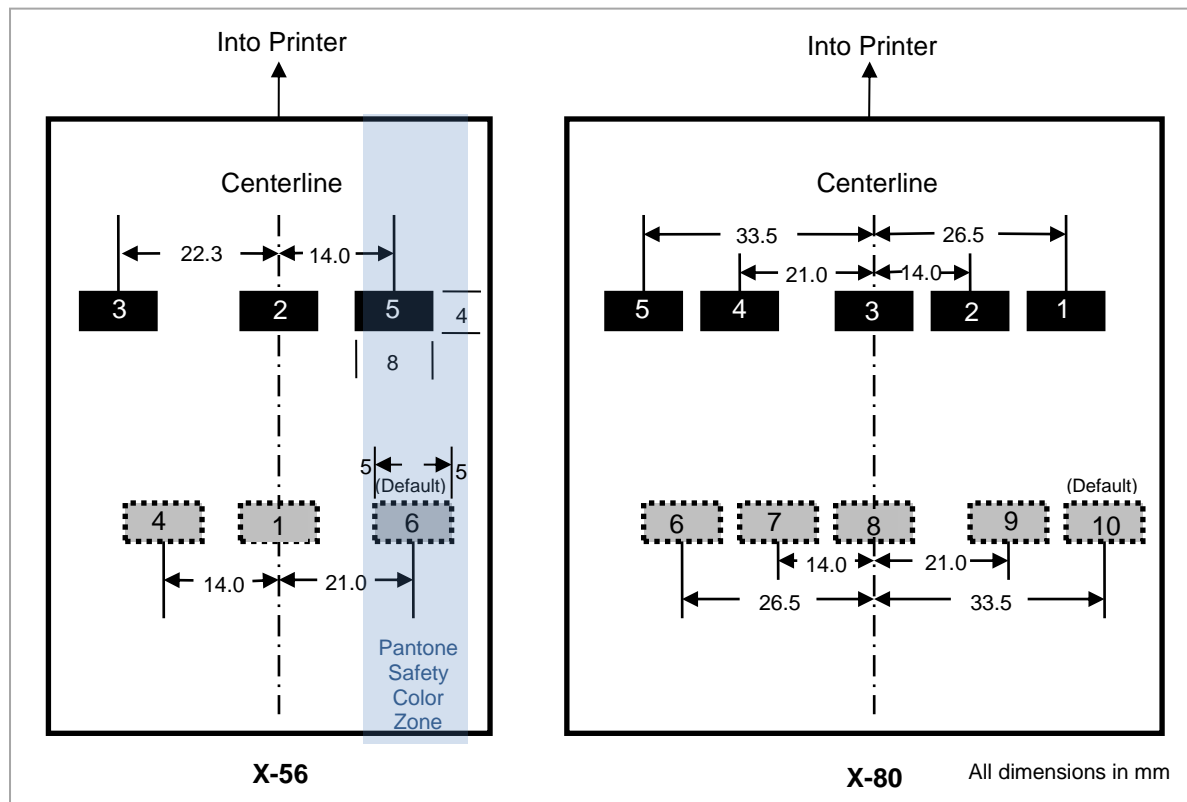

Figure 13 – Sensor Positions (top view on thermal layer)
The Black Mark (BM) sensor of the eXtendo® printers can be located in numerous positions during manufacturing, both above and below the paper. Figure 13 represents X-56 and X-80 paper, and show where the BM should be located in order to be detected with the BM sensor of your eXtendo® printer. Grey/dotted areas reference locations on the back (bottom) side of the paper. The number inside each black mark area is the BM Position number and refers to the printer's match code that you would see on quotations, invoices etc. (e.g. *X56-S-F-06-J-..* here an X-56, Serial Interface, BM sensor at location **6**).
In order to avoid accidental interpretation of preprinted information as the black mark, it's necessary to keep the area 5 mm to the left and right of the BM edges for the entire length of the printout free of all printing except Pantone Safety Colors with a print contrast (PCS) value of under 15%, as measured by MacBeth RD924. The BM itself must have a print contrast over 80%, per DIN 66223, measured with MacBeth PCM2, Filter B. This applied to the side of the printout where the BM is located, regardless of whether it is the thermal-coated side or not. The blue area in Fig. 13 shows this zone for the default sensor position 6 of the X-56.